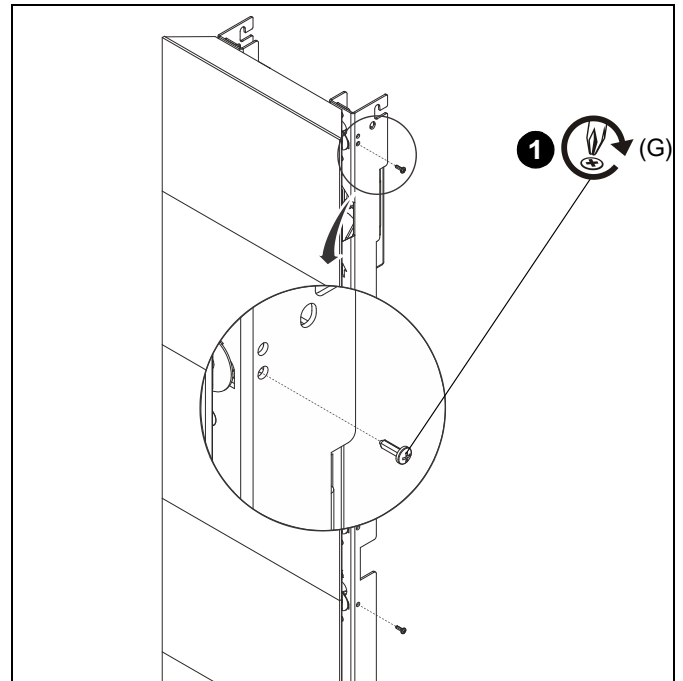

Figure 17
1. After all displays are mounted and leveled, install #10-24 x 5/8" Phillips tapping screws (G) on the outermost uprights. (See Figure 17)
1. After all displays are mounted and leveled, install #10-24 x 1" Phillips screws (E) until the screw contacts mounting buttons of LED displays. (See Figure 17)